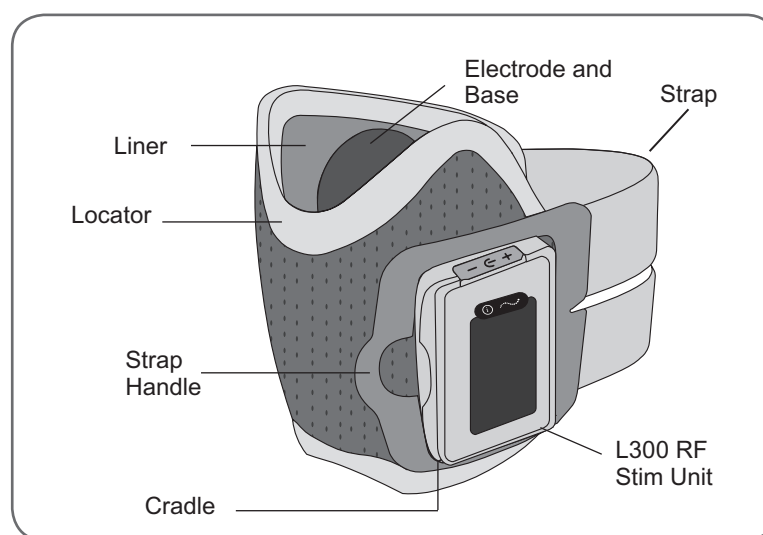

Figure 4-3: L300 FS Cuff.
- An L300 RF Stim Unit. See Figure 4-3.